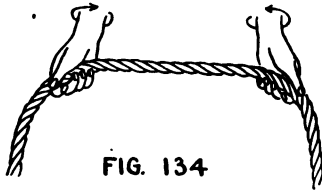

FIG. 134
**Racking Hitch.** The racking hitch is often used by railroad men as a hook fastening for large ropes where heavy loads are to be lifted. In making the hitch the rope is held in the hands, palms up, and two loops are formed by turning the hands in the direction of the arrows (fig. 134). The loops are each given a full turn and hung on the hook as shown in fig. 135.